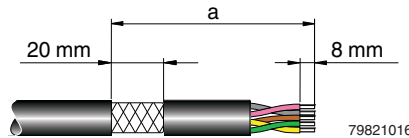

Figure 7-5 Connecting the shielded cable
- Strip approximately 20 mm off the outer sheath of the cable at the required distance from the end of the cable (a on Figure 7-5).